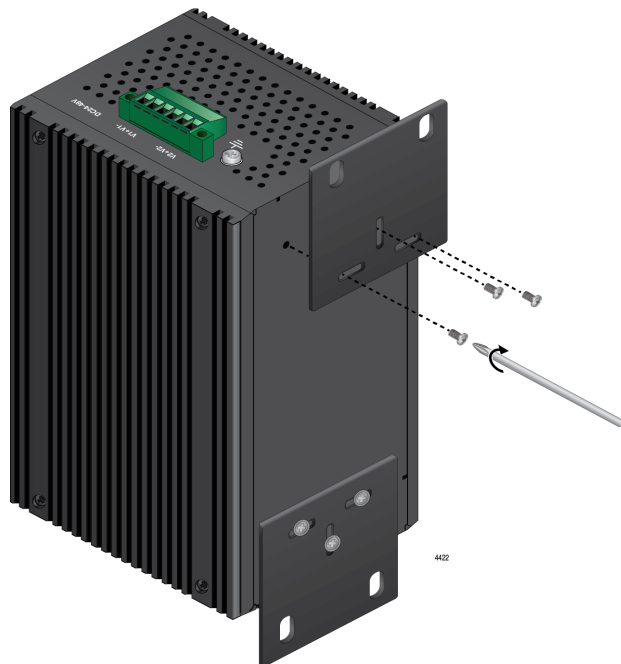

Figure 18. Install Wall Mount Brackets on the Back of the Switch
3. On the top and bottom of the switch's back panel, align and install the two wall mounting brackets (provided) with the six screws (provided). Refer to Figure 18.